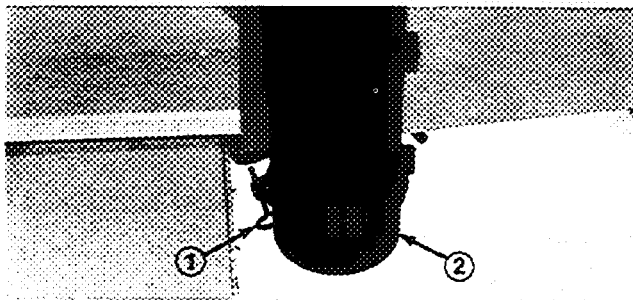

Figure 26
1. Loosen thumb screw until dust cup and baffle can be removed (Fig. 26). Separate dust cup and baffle (Fig. 26).